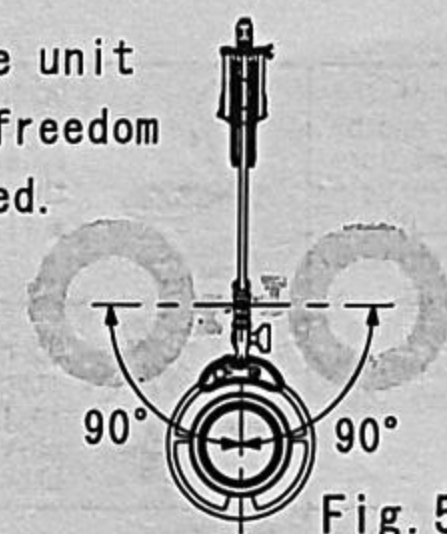

Fig.5
- ① As for the applicable model, the horizontal swing of the illumination lens frame unit is possible as shown in Fig.5. By using the horizontal swing well, the degree of freedom for setting the illumination lens frame unit as an observation object is expanded.